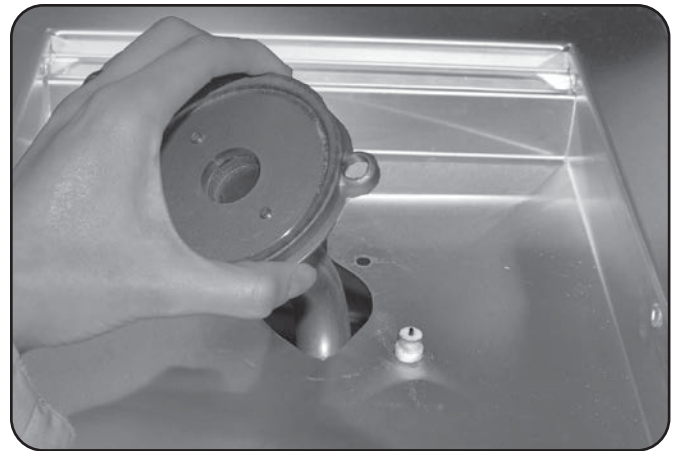
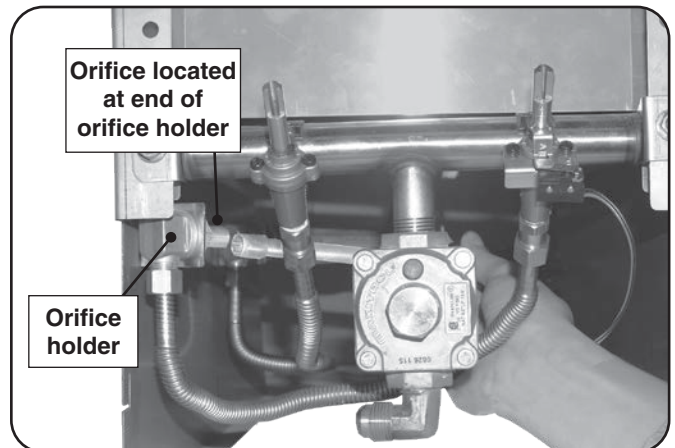

Fig. 47-2 Lift burner
Fig. 47-3 Locate orifice
4. Remove the burner cap and carefully lift the burner up and out, clearing the ceramic electrode (see Fig. 47-2), and pulling the burner tube away from the orifice, located on the end of the orifice holder on the left side of the unit (see Fig. 47-3).
5. Using a $\frac{3}{8}$ " socket, remove orifice from the orifice holder (see Fig. 47-3) and check the number stamped on the orifice face.